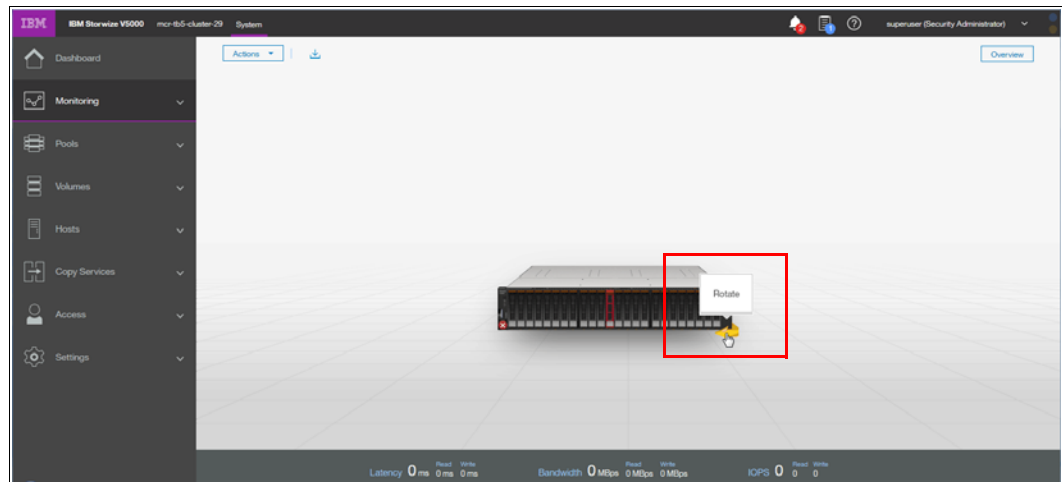

Figure 12-111 Rotating the system image
1. Browse to **Monitoring** → **System** and rotate the enclosure to the rear view, as shown in Figure 12-111.